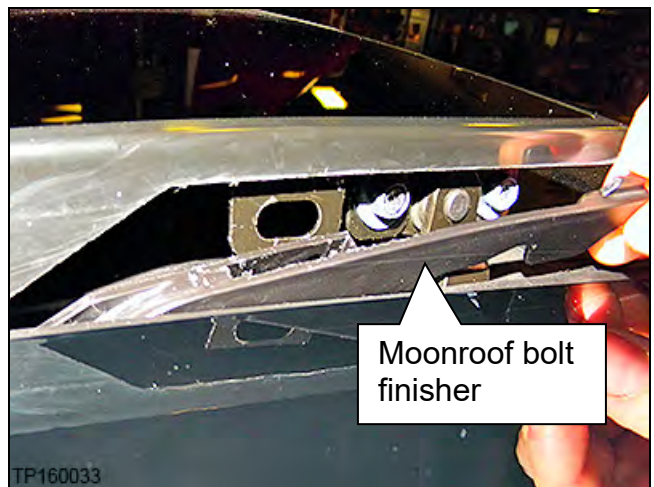

Figure 56
- g. Push Moonroof bolt finisher down and remove from vehicle (Figure 56).